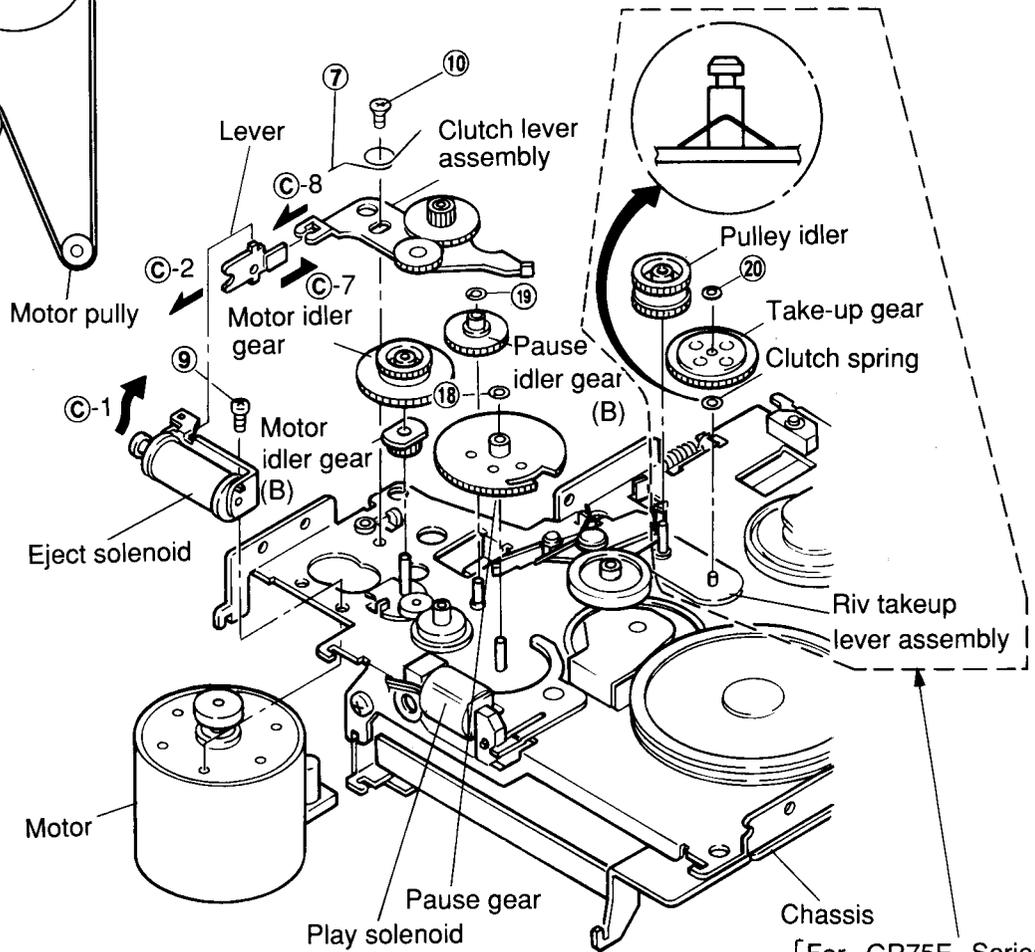
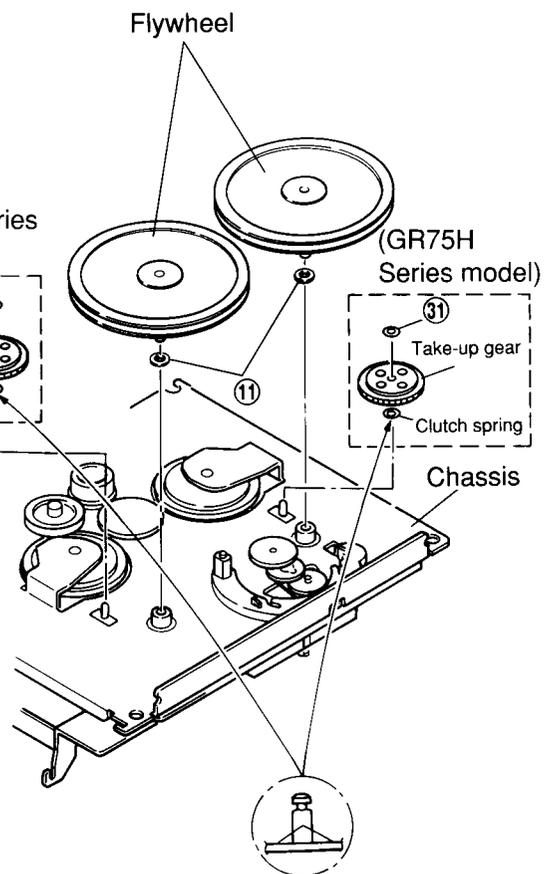

Figure 10
Figure 12
- (1) After removing the belt, remove spring ⑦ as shown in Figure 10.
- (3) Remove two screws ⑨ and ⑩, and remove the motor, taking care not to damage the motor idler gear. (Refer to Figure 10.)
- (4) Mount the new motor following the removal steps in the reverse order.
- (1) After removing the belt, pull out the two flywheels. Take care not to lose the polyslider washer (11) located between the flywheel and the chassis. (Refer to Figure 12.)
- (2) Fix the polyslider washer to the new flywheel and mount the flywheel to the chassis.
- (2) Remove screw (9) and remove the solenoid as shown in Figure 10.
- (3) Align position (C)-1 of the new solenoid with position (C)-2 of the lever and fasten the screw as shown in Figure 10.
- (4) Lead the wire through the tube and solder it.
- (1) After removing the motor, remove the motor idler gear and the motor idler gear (B) and remove the clutch lever assembly as shown in Figure 10.
- (3) Mount the new gears and clutch lever following the removal steps in the reverse order.
**Note:** When mounting the gears to the lever, apply grease (PG-671) to the position ©-6 as shown in Figure 15. Align the position ©-7 with the position ©-8 and mount the clutch lever as shown in Figures 10 and 15.
- (1) Remove M1.2 lock washer (18) and remove the pause gear pulling it up from the stud of the chassis as shown in Figure 10.
- (2) Mount the new gear following the removal steps in the reverse order.
- (1) After removing the motor and the motor idler gear, remove M1.2 lock washer (19) and remove the gear by pulling it up from the stud of the chassis as shown in Figure 10.
- (2) Mount the new gear by following the removal steps in the reverse order.
- (1) After removing the belt and the pulley idler gear, remove M1.2 lock washer (20) by pulling it up from the stud of the riv take-up lever assembly as shown in Figure 10. After removing the Flywheel, remove M1.2 lock washer (31) and remove the gear by pulling it up from the stud of the chassis as shown in figure 12. [For GR75H Series model]
- (2) Remount the take-up gear following the removal steps in the reverse order.